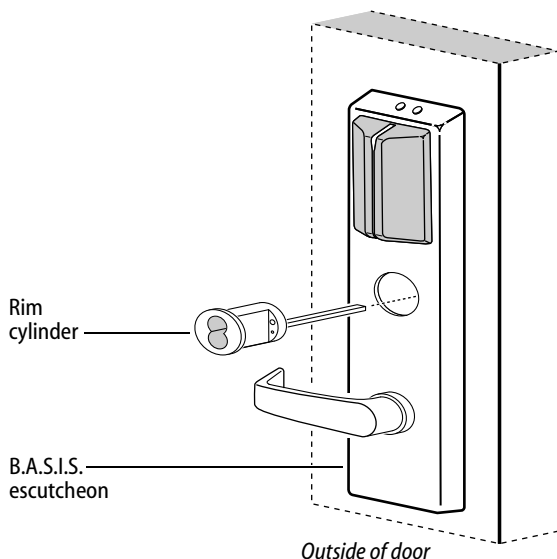

Figure 7 Installing the cylinder
- 2 Insert the cylinder through the cylinder opening in the B.A.S.I.S. escutcheon and into the door as shown in Figure 7.